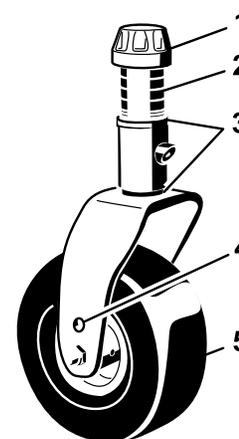

Figure 85
1. Remove the tensioning cap from the spindle shaft and slide the spindle out of the caster arm (Figure 85).